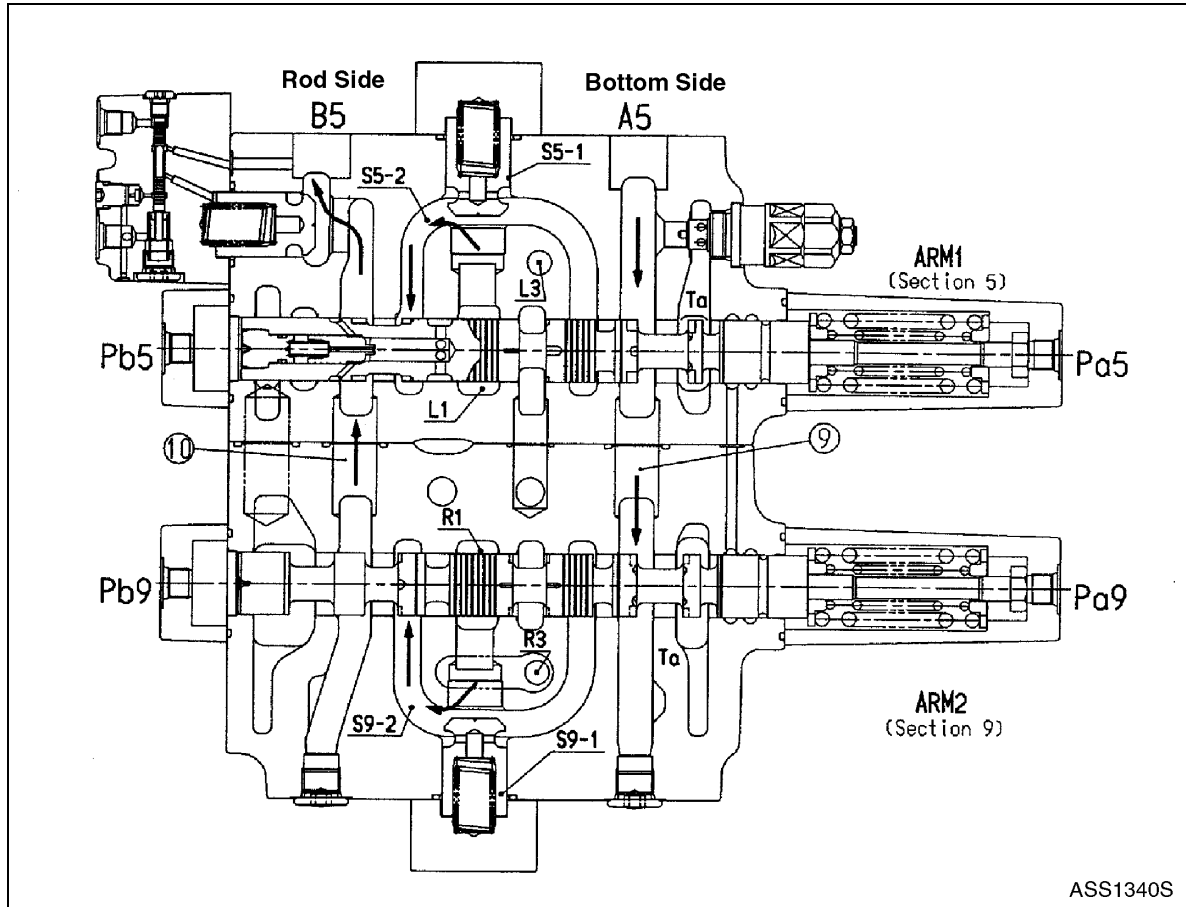

Figure 9 Dump
1. Arm dump (2 speed junction) (Figure 9)